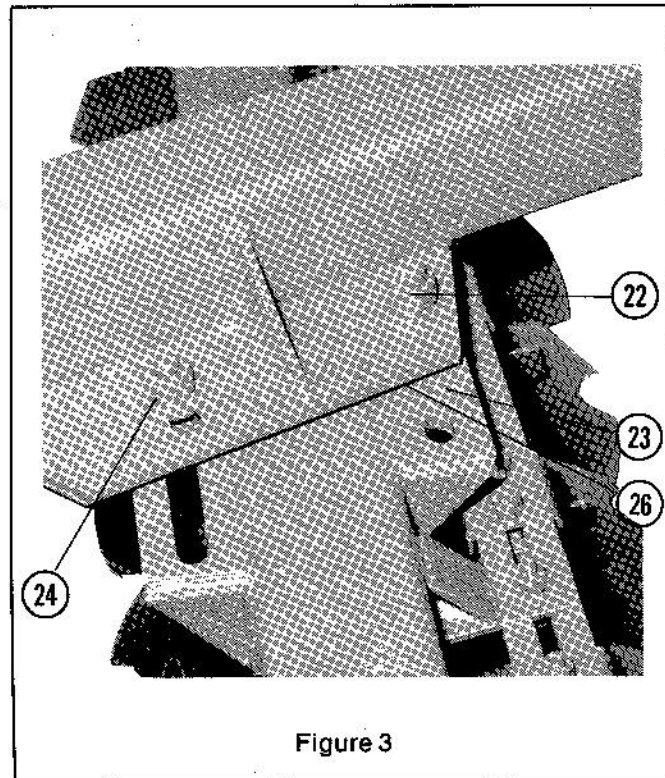

Figure 3
3. **Offsetting Rear Gang Bar:** (Refer to Figure 3) for ordinary conditions bolt(22) should be in the centre of lateral plate(23). When using disc as a double wide unit the rear gang bar is adjusted to maximum width to fill furrow. Remove two bolts(22), loosen bolt where slots are(24), adjust laterally then retighten all bolts.
- B. **Side to Side Levelling:** (Refer to Figure 3) In general, adequate levelling from side to side may be obtained by placing leveling washers(26) between angling plate on frame and gang bar. Leveling washers are always used on narrow side(N) of disc only.